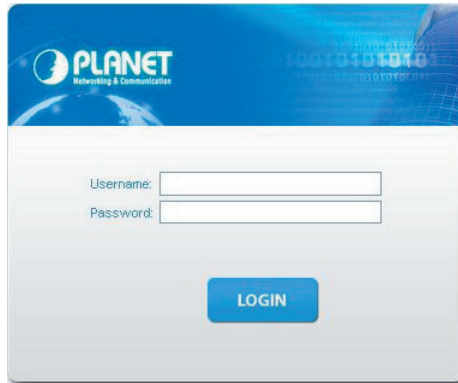

Figure 5-2: Web Login Screen
2. When the following dialog box appears, please enter **"admin"** in both the default user name and password fields. The login screen in Figure 5-2 appears.